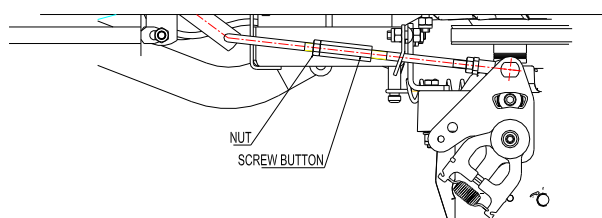

FIG 9 LH Pump Adjustment
- e) Place the left motion control lever to the neutral position. Loosen the lock nut on the lever. Rotate the turnbuckle in the middle of the lever to adjust the length of left hydrostatic transaxle in proper way until the wheel stops. Pull the lever slightly when it's in the neutral position. The motion control lever will rebound to the neutral position by the reaction power of spring. The wheels will stop to run or turn back slightly. After doing this, tighten the lock nut. See FIG 9.